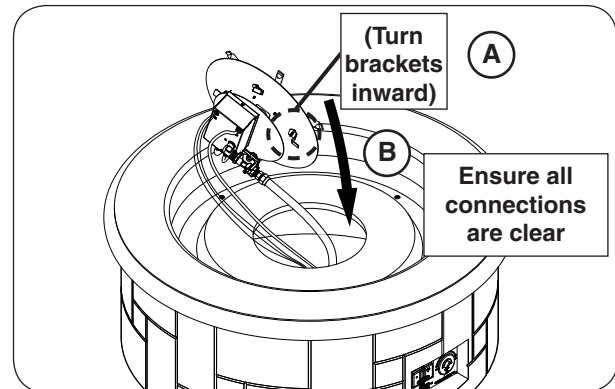

Fig. 28-2 Insert burner assembly
1. Ensure that the four burner brackets are turned inward, then insert the burner assembly (see Fig. 28-2, A-B).